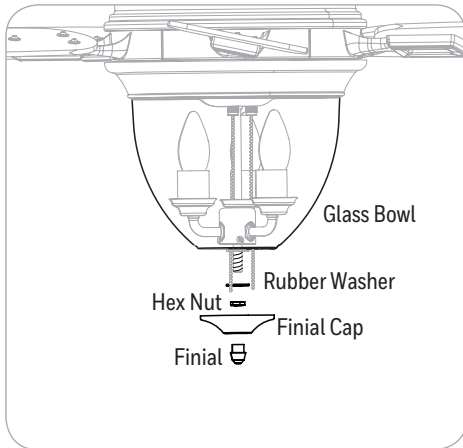

Figure 5.10
10. Feed the pull chains through the off-center holes of the glass bowl. Lift the glass bowl onto the threaded rod of the light kit and secure it using the rubber washer and hex nut. Lift the finial cap over the threaded rod and secure it with the finial (Figure 5.10).